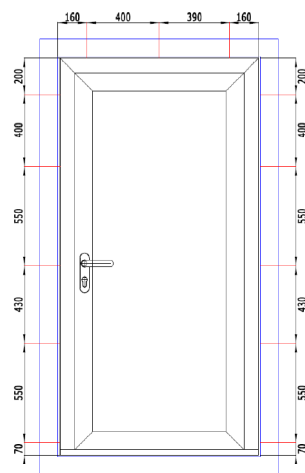

Fig. 2 Placement of fastening points
- Pline Premium doors to maintain the RC2 burglary resistance class must be fixed to the wall with screws min 7.5x120 mm at intervals as in Figure 2. The same method of installation is also recommended for other PVC doors.